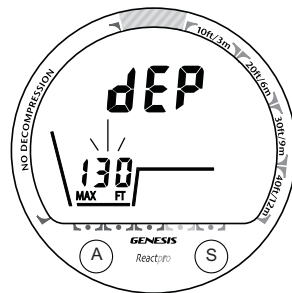

Fig. 19 - Set Depth Alarm
- While viewing the Set 1 screen, press/release the A (left) button 6 times (< 2 sec each time), the Set Depth Alarm screen appears with the Set Point flashing (Fig. 19).